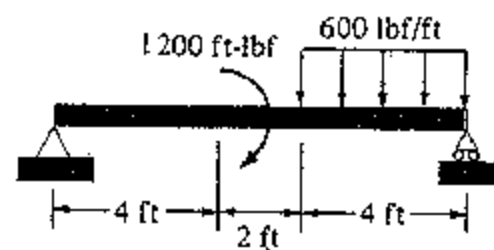

Fig. 4.1.
(1) A beam is loaded as in Fig. 4.1. Use the equations of equilibrium, $V'(x) + q(x) = 0$ and $M'(x) = V(x)$ where $q(x)$ is the distributed load applied to the beam, along with the corresponding integrated forms, to construct the shear and moment diagrams. (15%)